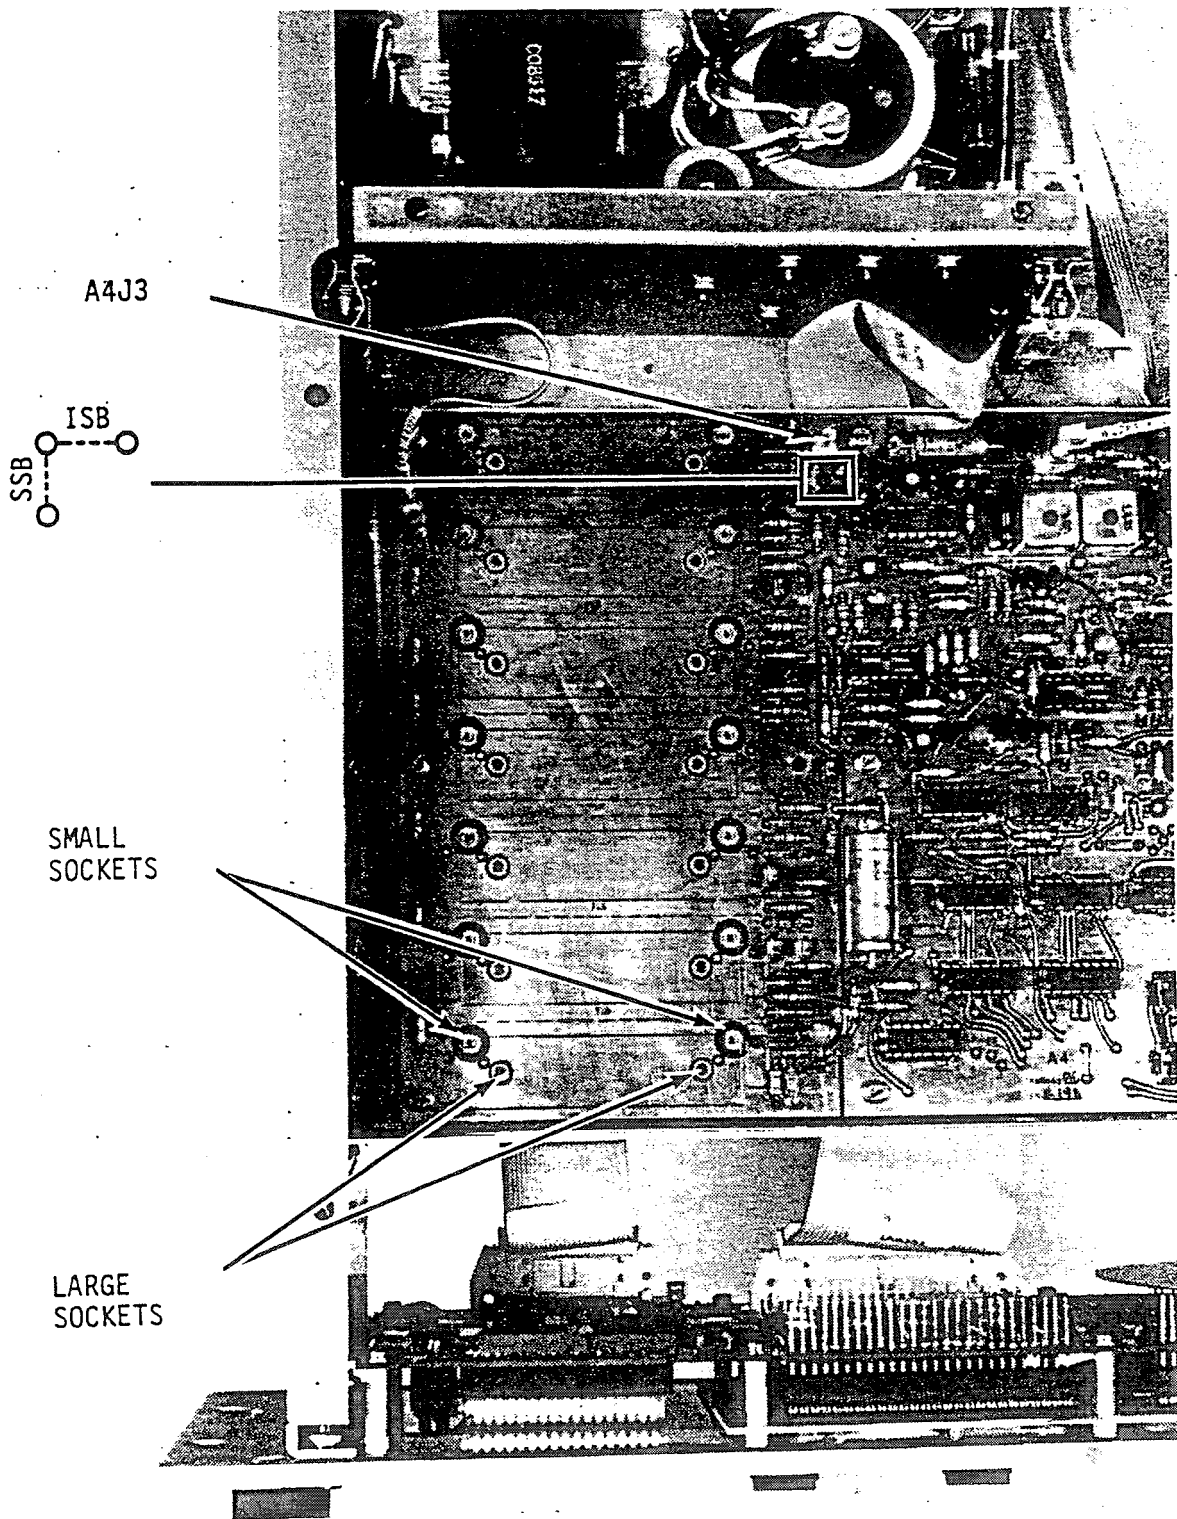

Figure 2-5. Location of Filters and Jumpers, A4 Circuit Card Assembly
If the Receiver is to be operated in the ISB mode, the A5 circuit card assembly must be installed in the Receiver. The A5 card is located towards the rear of the Receiver, between the A1 assembly and the A4 circuit card assembly as shown in Figure 2-6. The following procedure details the steps necessary to install the A5 circuit card assembly. Refer to Figures 2-5 and 2-6 for the location of cables and connectors.
4. The mechanical jumper on the A4 circuit card assembly must be properly positioned for ISB/SSB operation. The jumper, designated LK1, is physically located to the right of filter position FL1 when looking from the front of the Receiver. (Refer to Figure 2-5.) With the A5 circuit assembly installed, the jumper must be connected across the two terminals designated ISB.